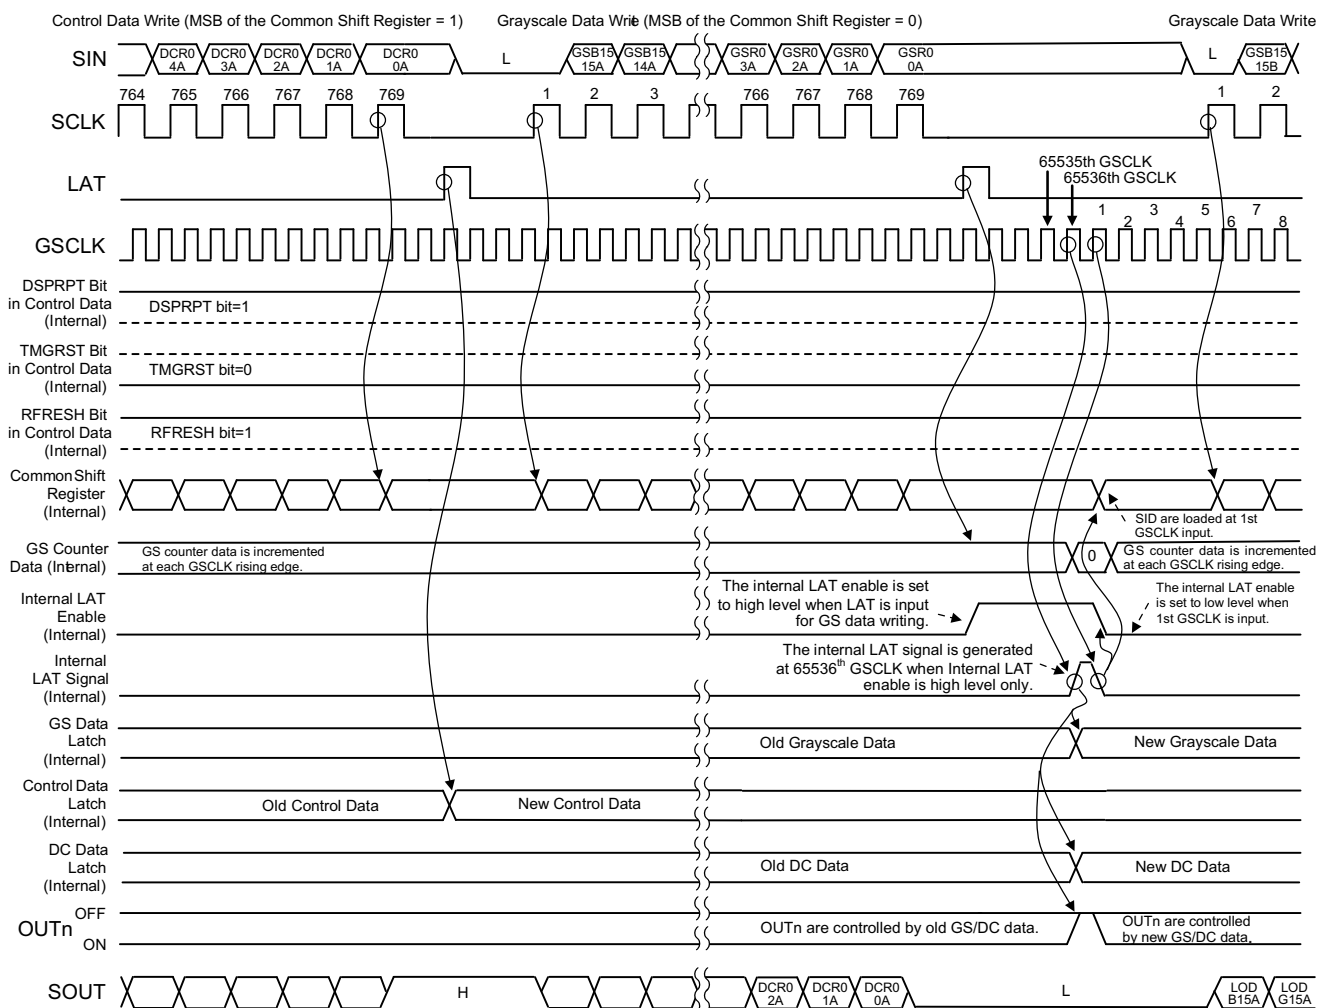
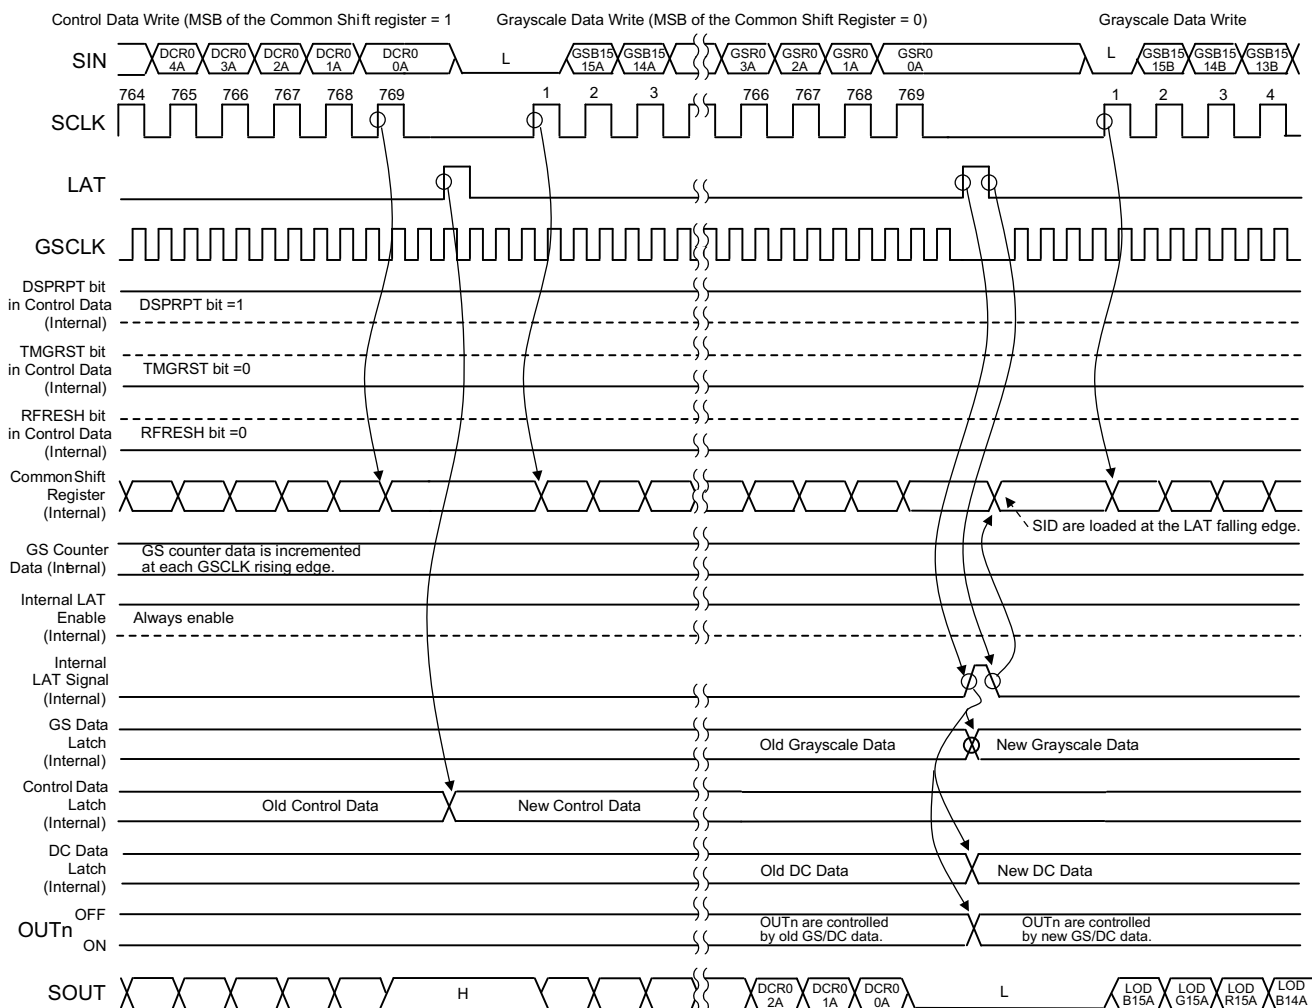

Figure 31. Auto Data Refresh Function 1 (DSRPT = 1, TMGRST = 0, and RFRESH = 1)
Figure 32. Auto Data Refresh Function 2 (DSPRPT = 1, TMGRST = 0, and RFRESH = 0)
This function delays updating the grayscale (GS) and dot correction (DC) data until the end of one entire display period. If both DC data and GS data are written by the end of an entire display period, the input DC data are held in the control data latch and the GS data are held in the common shift register. Both DC and GS data are copied to the 336-bit DC data latch and 768-bit GS data latch at the end of an entire display period. The data latches are used for the next display period. GS data are directly copied from the common shift register to the GS data latch. Therefore, GS data must be written after the DC data are written. Furthermore, the GS data in the common shift resistor must not be changed until all data are copied to the GS data latch. Figure 31 and Figure 32 show timing diagrams for this function.